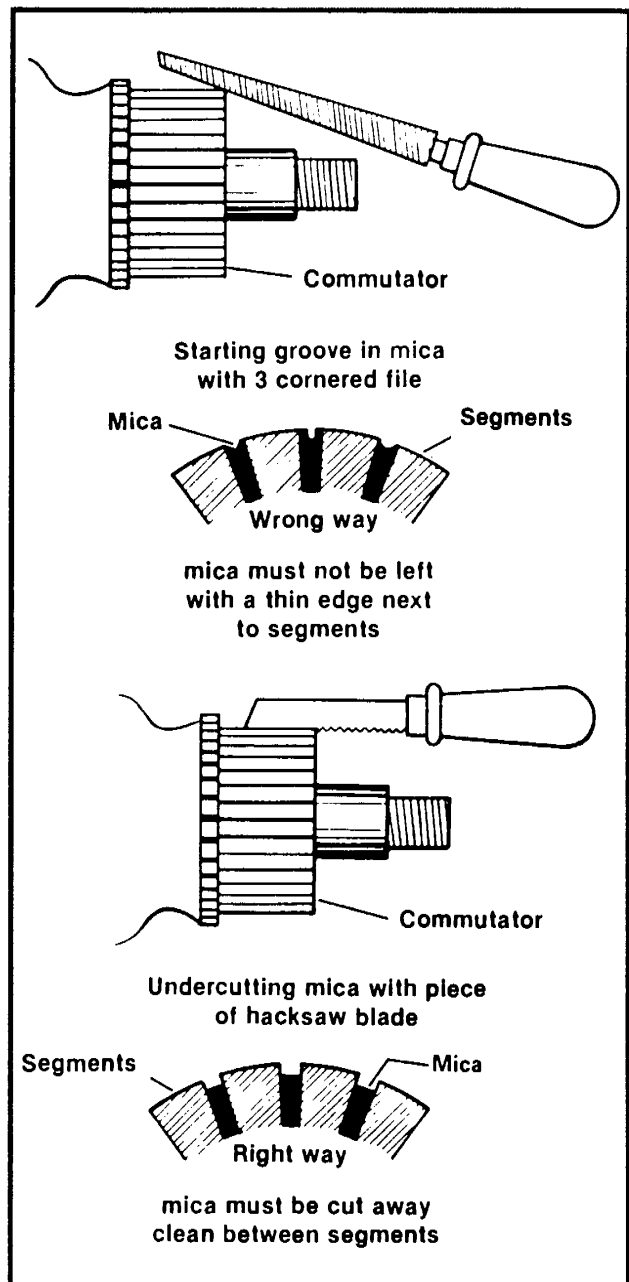

Figure 5-35. Undercutting the Mica Separators
9. See Figure 5-35. If an undercutting machine is not available, undercutting can be done satisfactorily